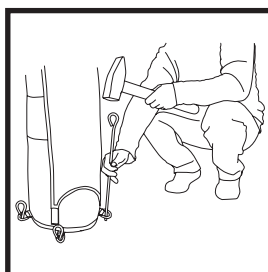

Fig. 6
9. Anchor the tent to the ground by inserting spike into the rings at the base (Fig. 6).